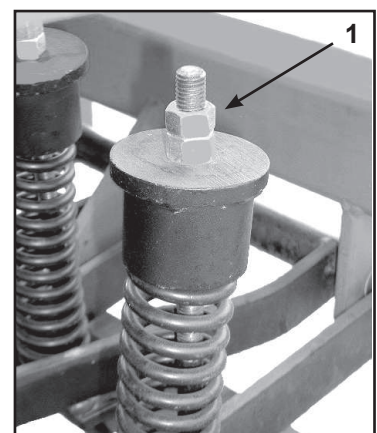

Fig 2
A more constant sowing depth is achieved with minimal dragbar deflection. With harder ground conditions more spring pre-compression may be required. Adjust the M10 plain nuts (1) as desired. Refer Fig 2. Note, less spring pre-compression will allow the disc to ride over rigid obstacles, eg stones.